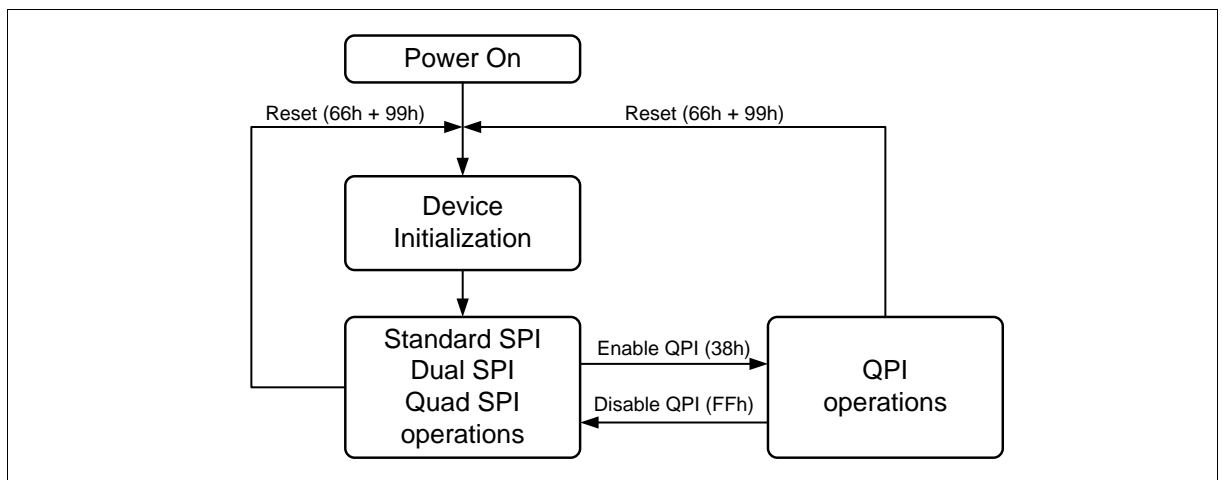

Figure 2 FM25Q16A Serial Flash Memory Operation Diagram
The FM25Q16A supports Quad Peripheral Interface (QPI) operations only when the device is switched from Standard/Dual/Quad SPI mode to QPI mode using the “Enable QPI (38h)” instruction. The typical SPI protocol requires that the byte-long instruction code being shifted into the device only via DI pin in eight serial clocks. The QPI mode utilizes all four DQ pins to input the instruction code, thus only two serial clocks are required. This can significantly reduce the SPI instruction overhead and improve system performance in an XIP environment. Standard/Dual/Quad SPI mode and QPI mode are exclusive. Only one mode can be active at any given time. “Enable QPI (38h)” and “Disable QPI (FFh)” instructions are used to switch between these two modes. Upon power-up or after a software reset using “Reset (99h)” instruction, the default state of the device is Standard/Dual/Quad SPI mode. To enable QPI mode, the non-volatile Quad Enable bit (QE) in Status Register-2 is required to be set. When using QPI instructions, the DI and DO pins become bidirectional DQ_0 and DQ_1 , and the WP# and HOLD# pins become DQ_2 and DQ_3 respectively. See Figure 2 for the device operation modes.